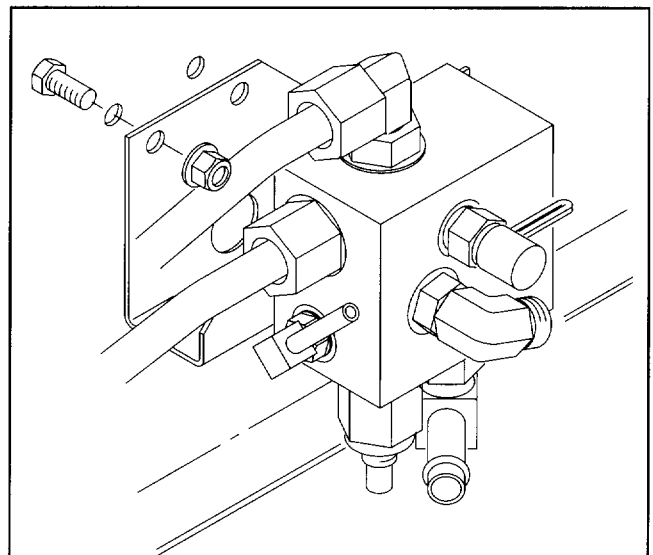

Figure 11
15. Using lower set of holes in right side frame member, mount manifold bracket with (2) 5/16-18 x 5/8" lg. flange head capscrews and locknuts (Fig. 11).